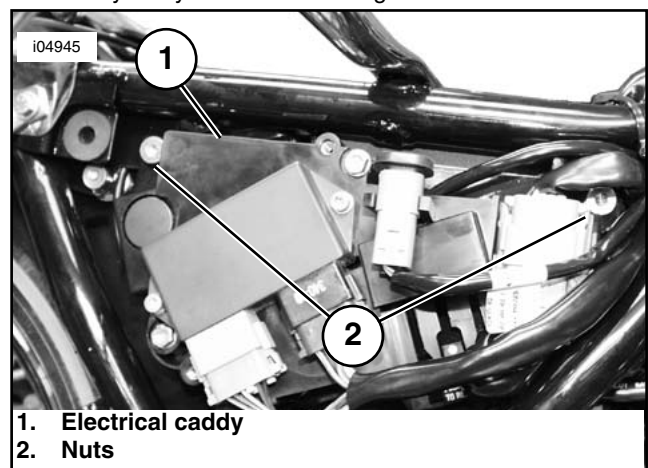

Figure 12. Remove Electrical Caddy
7. See Figure 12. **2002 and later Models Only:** Remove and retain two nuts, and carefully pull the electrical caddy away from the mounting studs.